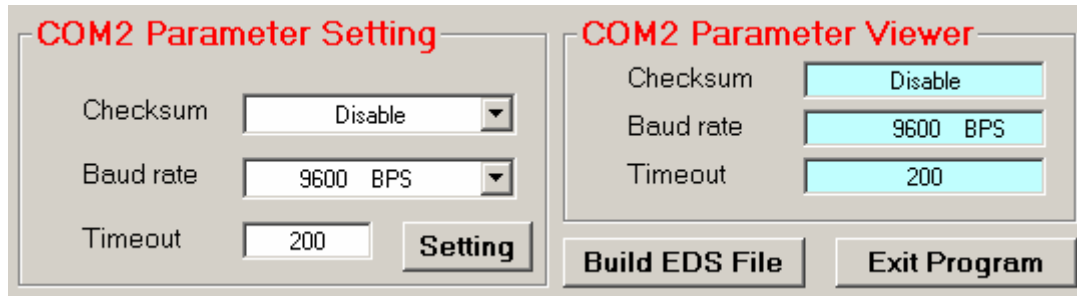

Fig 5-22
Step 7: Press the “COM 2”  button to display the com 2 bus configuration information on the i-7241D. Press the “Setting” button to set the needed CAN bus communication information in the dialog box as figure 5-22.